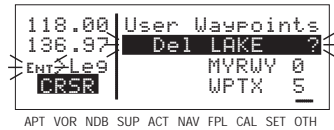
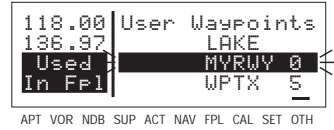

Figure 3-174
Figure 3-175
- Press **CLR**. The KLX 135A will ask if you wish to delete that user-waypoint (figure 3-174). If the waypoint is active or used in a flight plan, the deletion will not be allowed and you will receive a scratchpad message telling you this (figure 3-175).